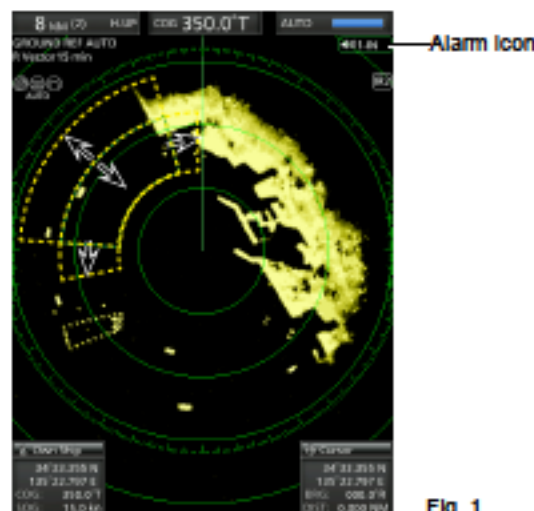
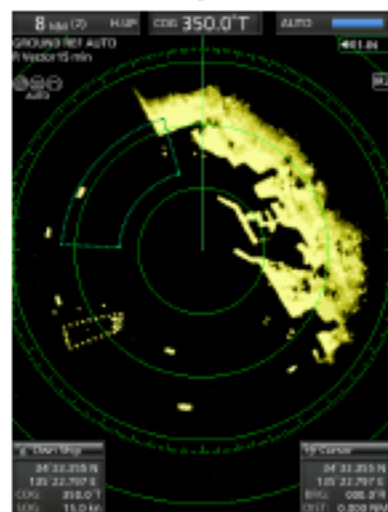

Fig. 1
Fig. 2
- The Alarm Icon () on the upper right of the screen and the preset alarm zone(s) is displayed. (Fig. 1)
- The starting zone is displayed on the screen. (Fig. 1)
- ① Push [CLEAR]/[取消] to stop the alarm.
- ① Push [ALM1/2]/[报警1/2] to cancel the alarm signal and function.
- " " and the preset alarm zone is displayed. (Fig. 2)